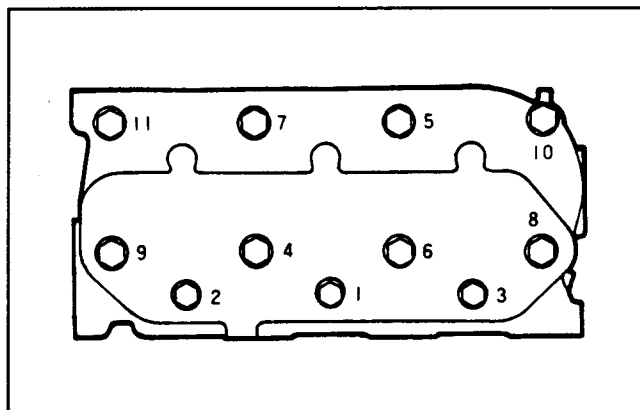

Figure 71
9. Tighten the cylinder head bolts in the order shown in Figure 71. Tighten the bolts to approximately one-third the specified torque, then two-thirds and finally to the final specified torque.